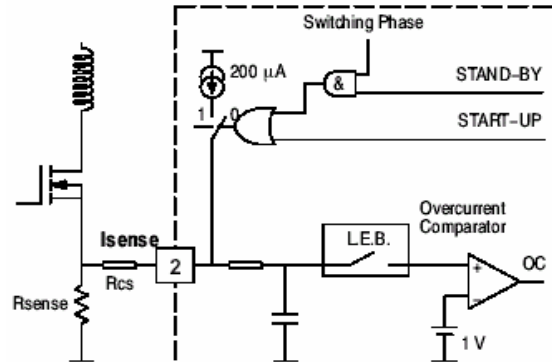

Figure 3. Current Sense
**The NEXT SWITCHING PHASE:** The high voltage current source is inhibited, the MODE latch ( $Q=0$ ) activates the NORMAL mode of operation. Figure 3 shows that no current is injected out pin 2. The over current sense level corresponds to 1.0 V.